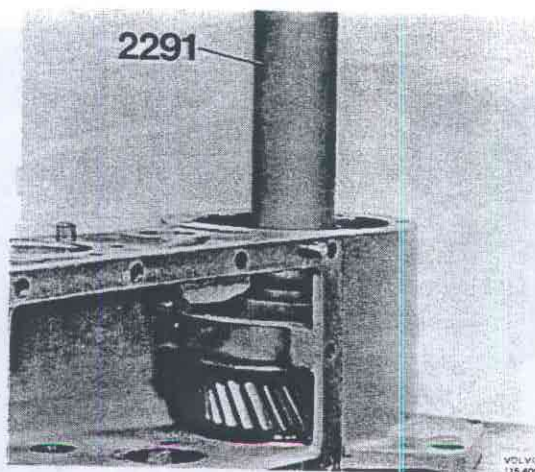

Fig. 43-152. Pressing out cluster gear
10. Press out the cluster gear and bearing with 2291, Fig. 43-152.